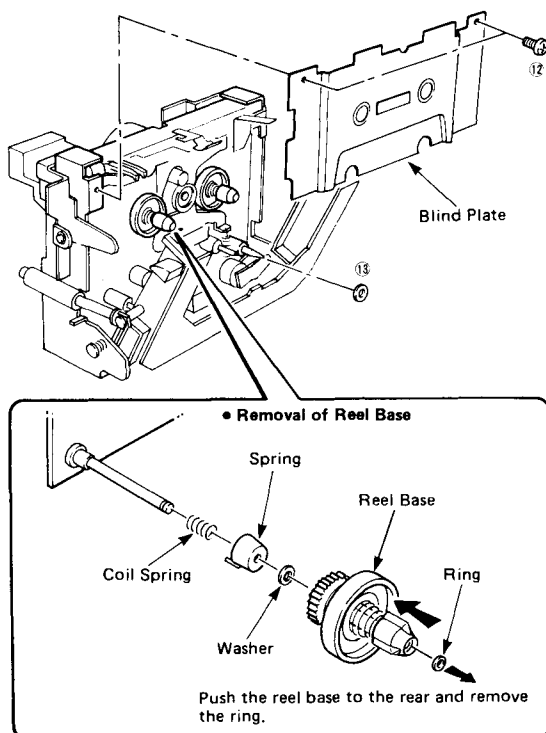

Fig. 8
- Remove 2 screws ⑫ in Fig. 8 and remove the blind plate.
- Remove the reel base as shown in Fig. 8.
- Remove the washer ⑬ in Fig. 8 and remove the flywheel (take-up side).